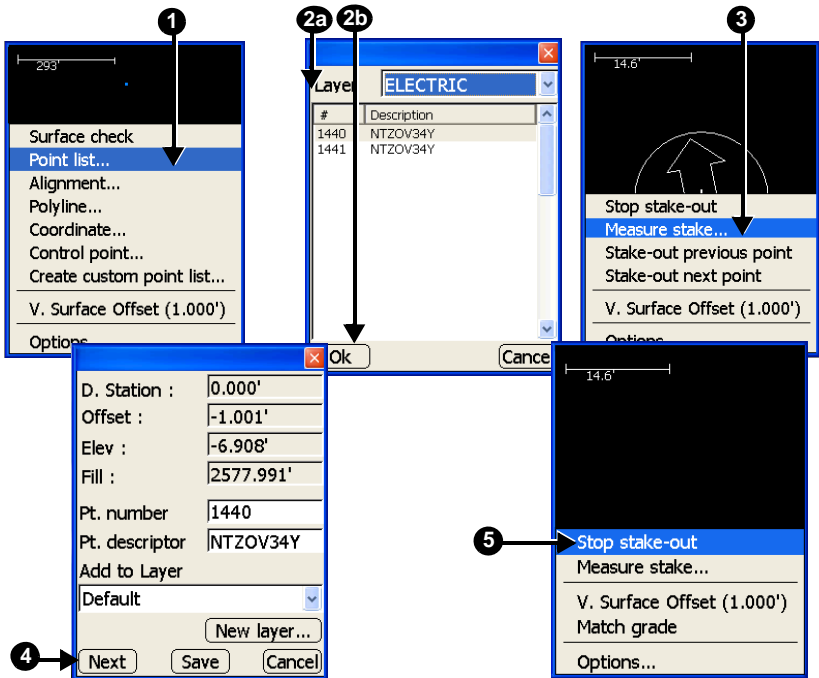

Figure A-28. Stakeout Point
4. To stakeout the next point in the list, press **Next** (Figure A-28 on page A-21).
- To stop the stakeout, press **Ok** and tap **Survey** ▶ **Stakeout** ▶ **Stop stake-out** (Figure A-28).